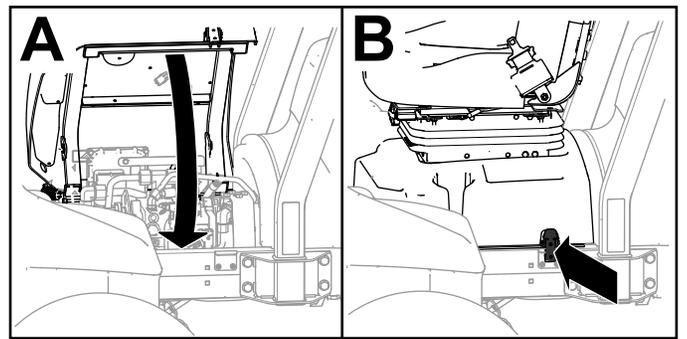

Figure 136
4. Rotate the seat and seat base closed and latch the base (Figure 136).